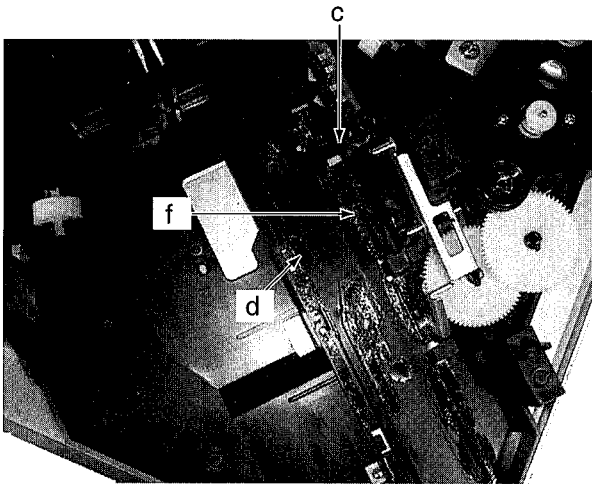

Fig 25
- 1) Let the arrow marked face in Figure 25 under mechanical bases "c" and "d" and then the rib of mechanical base "f" in the groove of mechanical base "e". then slide it to the rectangular window mechanical base "g" according to Figure 27.